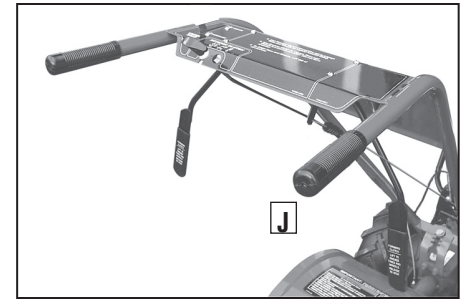
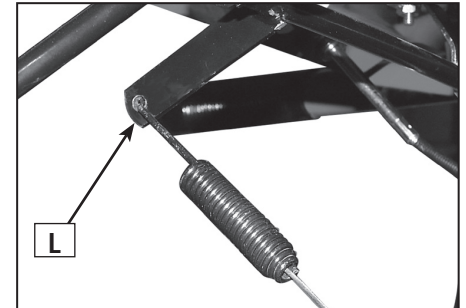

Figure 2-7: Forward Clutch Control levers (J). Forward clutch control linkage (K).
Figure 2-8
1. Remove any fasteners (rubber bands, tape, etc.) that may secure the Forward Clutch Control levers (J, Figure 2-7) to the handlebar.
2. The forward clutch control cable (with attached spring) is hanging loosely near the right-side wheel. Being careful not to kink or stretch the cable, insert the z-connector (L, Figure 2-8 - end of the spring) into the hole at the end of the forward clutch control linkage (K, Figure 2-7).